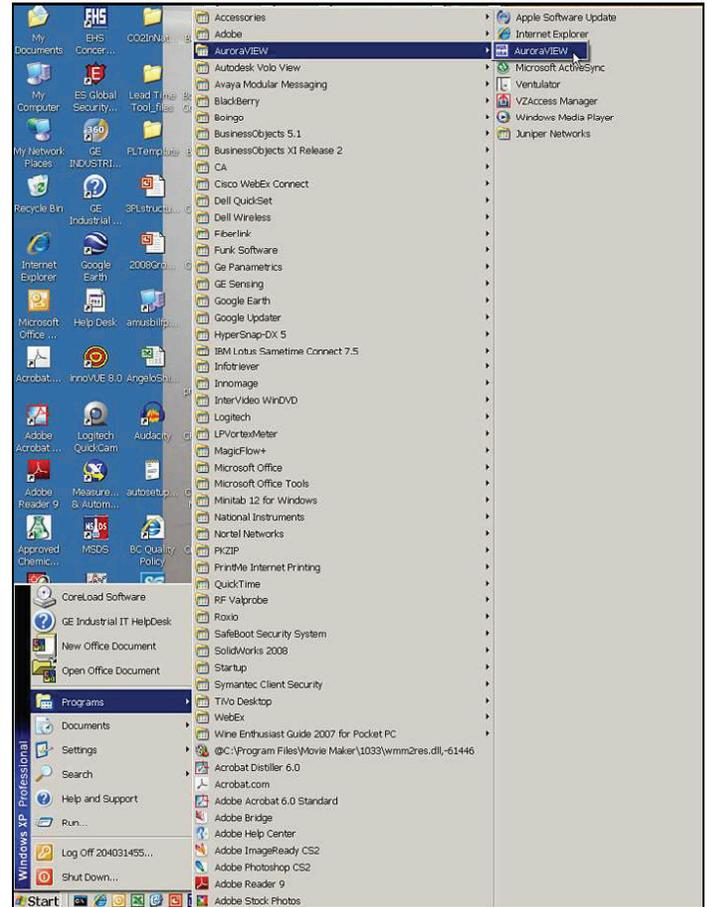

Figure 28: AuroraView in programs menu
- From the Start menu, click Programs → AuroraView → AuroraView (see *Figure 28* below).